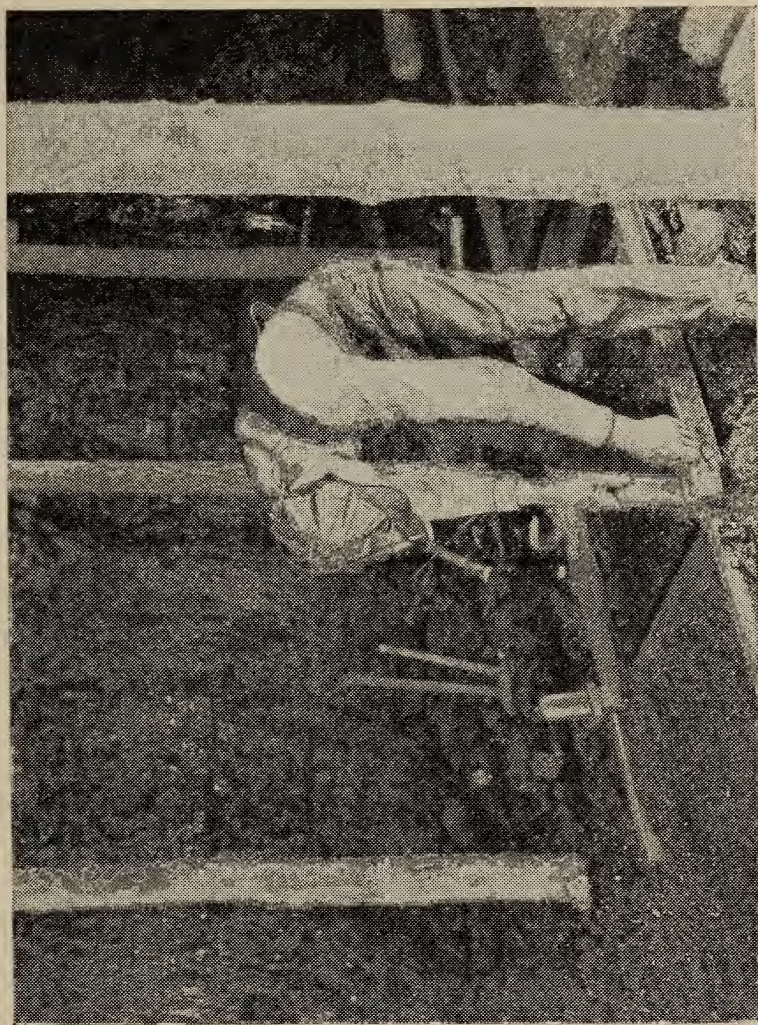

FIGURE 18.—Stopblocks or clevises should always be used at the end of the track in working places, regardless of the grade.
A. Stopblocks or clevises. (See fig. 18.)